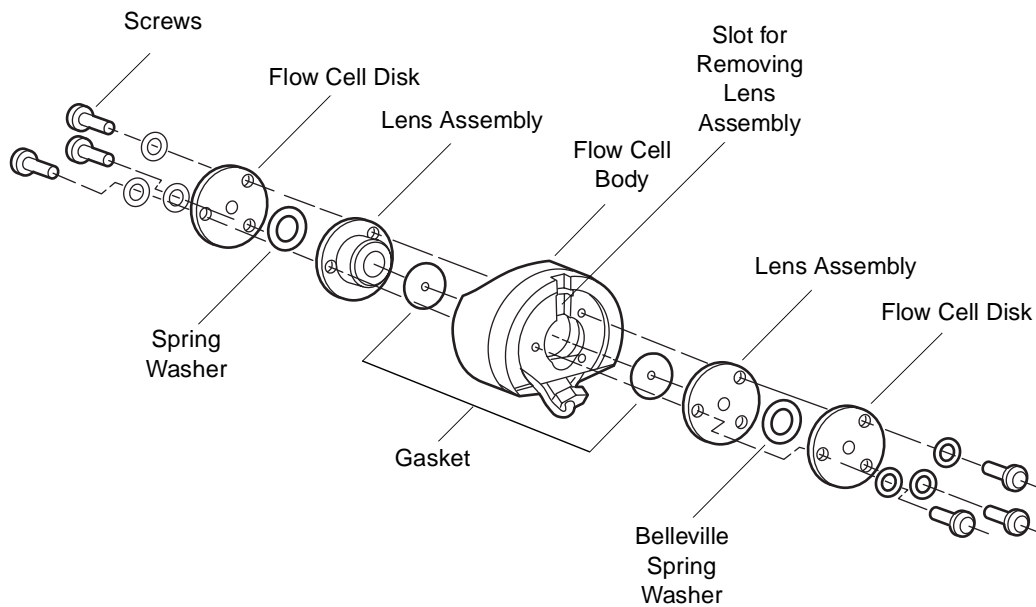

Figure 3-4 Disassembling the Flow Cell
1. Use the TORX T10 screwdriver to remove the three screws that secure one of the lens holder assemblies (Figure 3-4).
To reassemble the flow cell (see Figure 3-4):